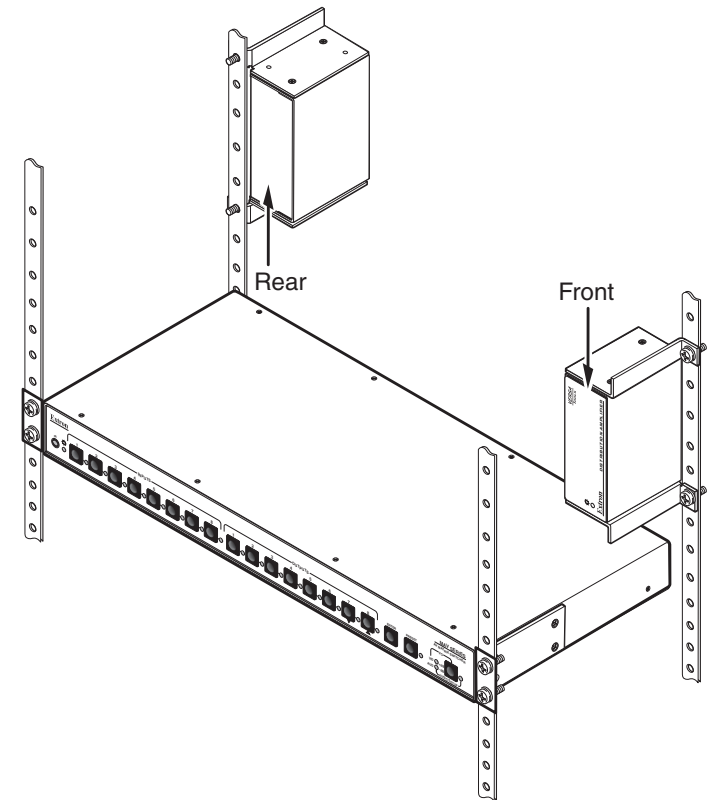

Figure 4 — Typical back of the rack installations
5. Mount the unit to the rack using the two included rack screws (figure 4). The MDA can be vertically mounted facing in either direction.